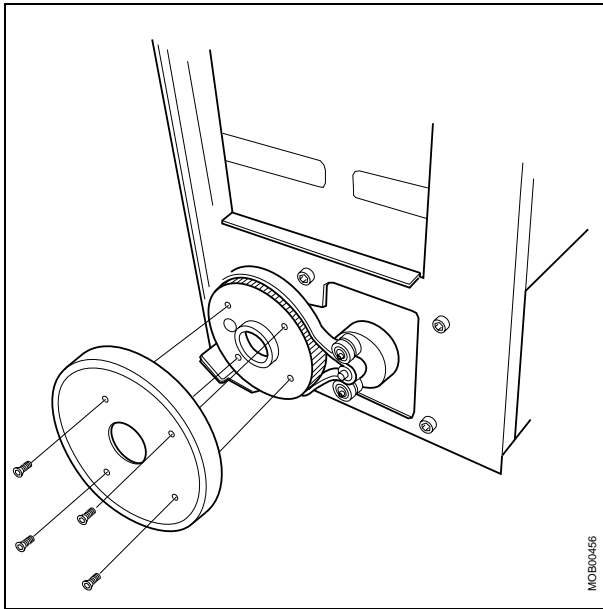

Fig. 2
- Remove the wheel according to (Fig. 2).